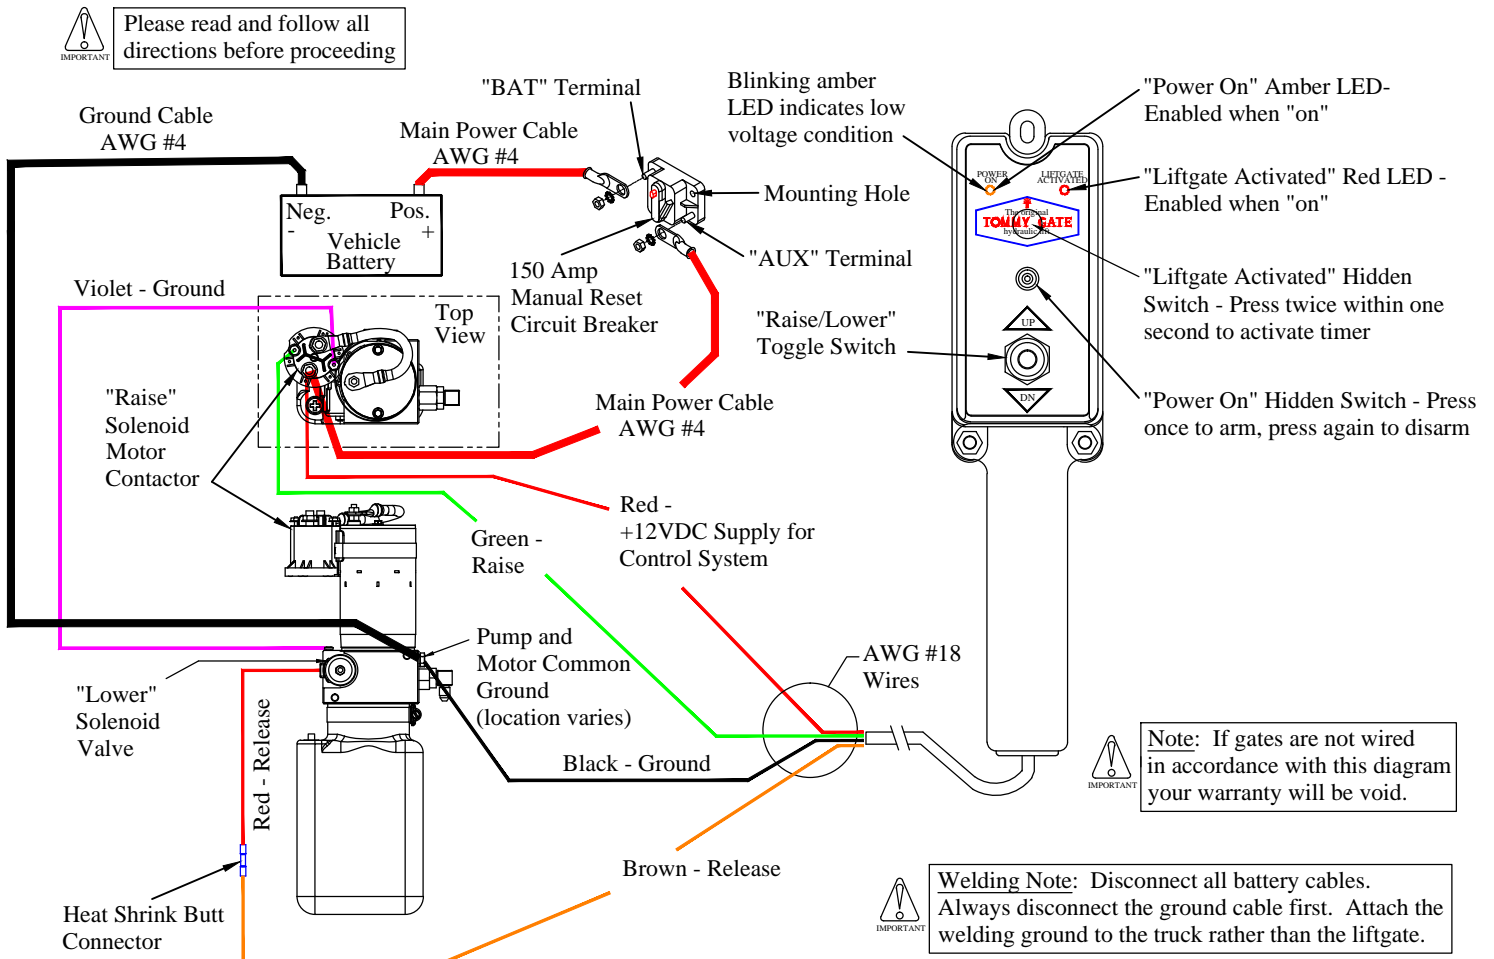

Figure 5: Wiring Diagram.
11. Remove the common ground bolt holding the 18GA black wire and the 4GA ground cable to the power unit housing (Figure 5).
12. Disconnect the 18GA red wire and the 4GA power cable from the "raise" solenoid (Figure 5).
13. Disconnect the green wire from the "raise" solenoid (Figure 5).
4. **Connect** the 18GA red wire and the 4GA power cable to the "raise" solenoid (Figure 5).
5. **Connect** the green wire to the "raise" solenoid (Figure 5).